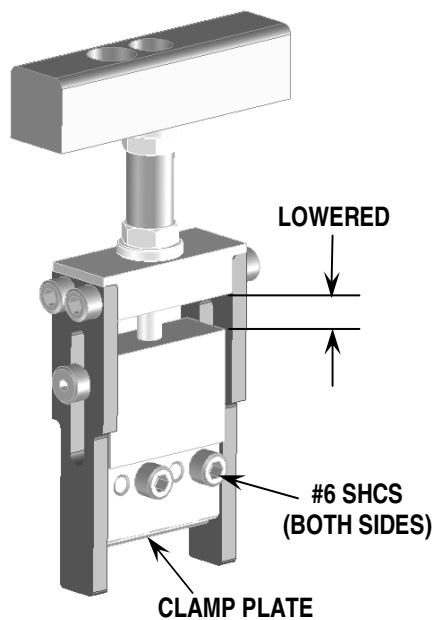

Figure 3
2. Using a 7/64" hex key, loosen the #6 SHCS holding the clamp plates. See Figure 3.
3. Before placing the Terminal Removal Tool into the terminals make sure the anvil is lowered. See Figure 3.